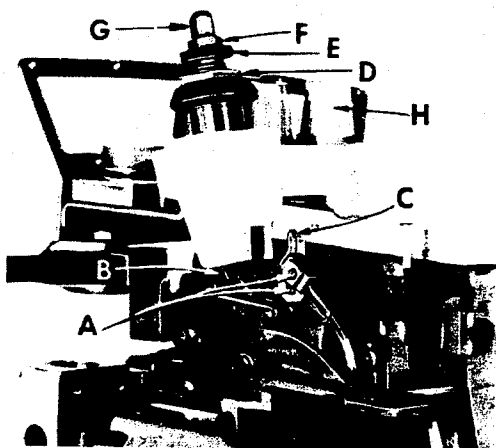
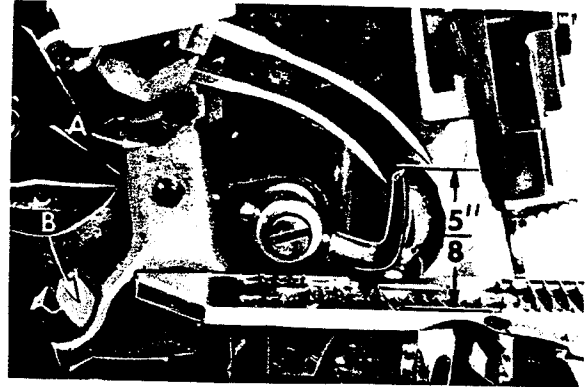

Fig. 2
Fig. 3
Release pressure on presser foot by turning the presser foot release bushing (A, Fig. 1 or 1A) and swinging presser arm (B) out of position. Turn handwheel in operating direction (away from operator) until needle holding screws (A, Fig. 2) are just exposed from behind presser spring plunger (B) and accessible to screwdriver. Loosen screw and withdraw needle. When replacing needles observe the position of the flat which is at the left of the shank and be sure the needle is inserted the full depth to the combination eyelet and stop plate (C).
Sufficient pressure to feed work uniformly should be maintained. Should it be necessary to increase or decrease amount of pressure on presser foot loosen lock nut (D, Fig. 2) and turn the adjusting screw (E). Adjusting screw has a right hand thread so tightening increases the pressure, loosening decreases pressure. When pressure adjusting screw (E) has been properly set, tighten lock nut (D). With presser foot resting on the throat plate, position locking nut (F) so that its under surface is approximately 1/32 inch to 1/16 inch from the top surface of adjusting screw (E). Set the cap (G) against the locking nut (F).
Release the pressure on presser arm and swing arm out of position. Insert both needles (Type 161 GS for the 401 stitch and Type 154 GAS for the overedge stitch) into the left and right holes, respectively, of the needle driving arm (A, Fig. 3), so that the butt ends contact the needle driving arm thread eyelet (C, Fig. 2). Secure needles in this position with clamp screws (A, Fig. 2).
With the throat plate assembled in position, the needles should center in the throat plate needle holes. To align the needles, loosen clamp screw (B, Fig. 3) and reposition the needle driving arm to the right or left as required. The height of the needle driving arm is correct when the point of the left needle is  $\frac{5}{8}$  inch above the throat plate (Fig. 3) when at the top of its stroke. Tighten clamp screw (B) after correct height has been obtained and needles have been centered in the throat plate needle holes. Remove throat plate